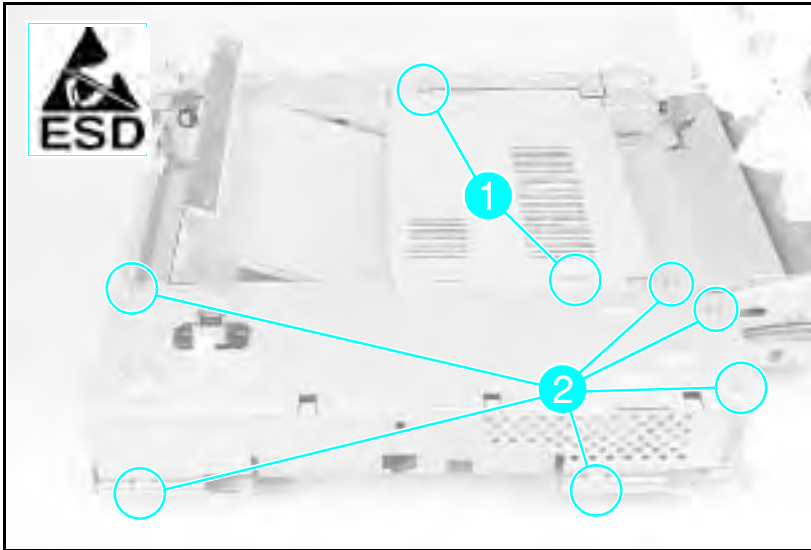

Figure A-16 Cover Plate
- 1** Remove the (2) screws shown in Figure A-16, callout 1.